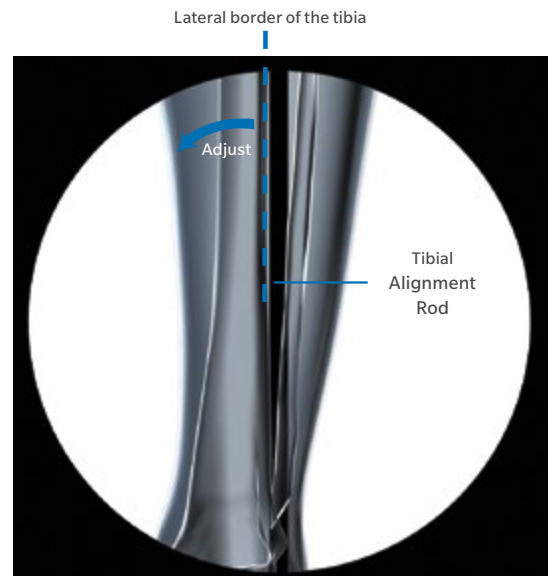

Fig. 25 Align tibia in coronal plane.
- Use fluoroscopy to verify that the tibia is aligned in the correct relationship to the Tibial Alignment Rod (Fig. 25).